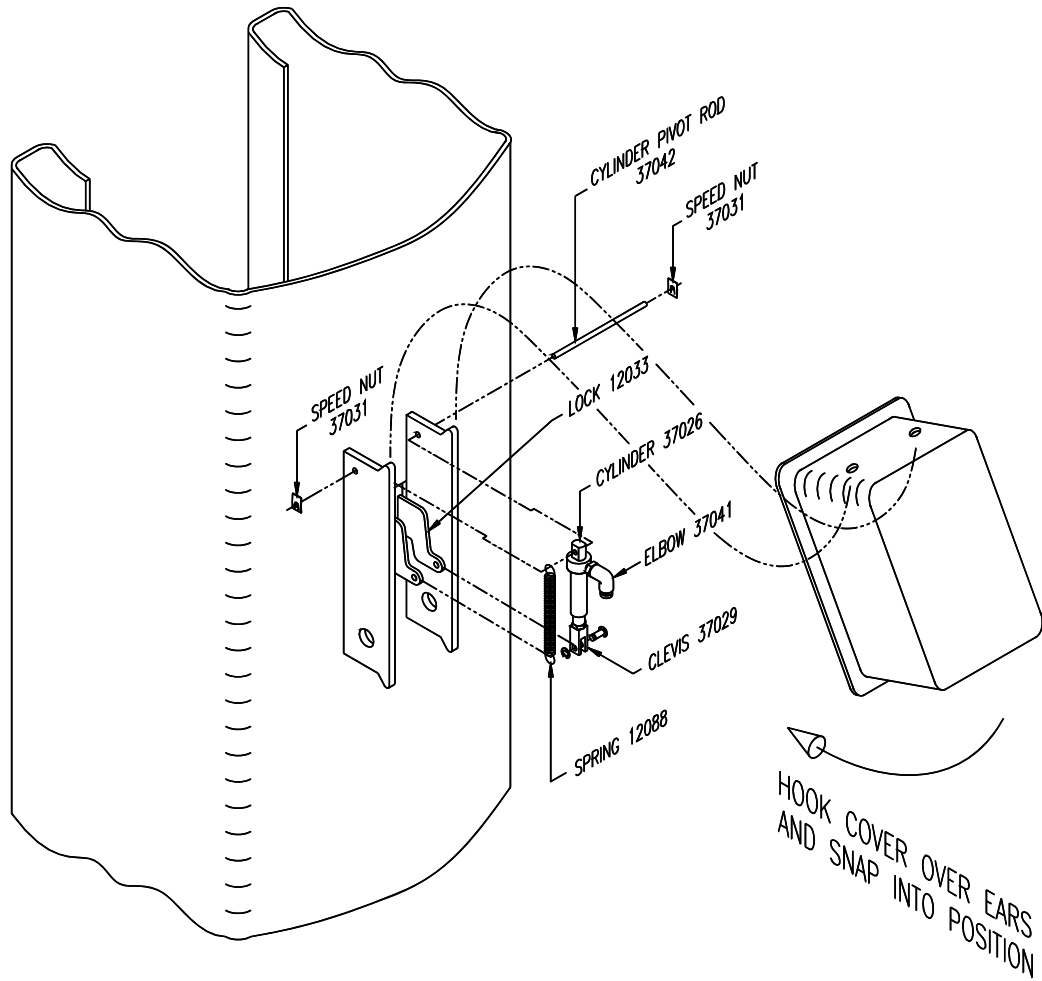

Figure 4
10. Install the locking pawl, actuator and spring (Fig. 4). **Adjust air cylinder clevis to retract lock against inside back of column when air cylinder is fully extended.** Tighten air cylinder clevis jam nut against clevis.